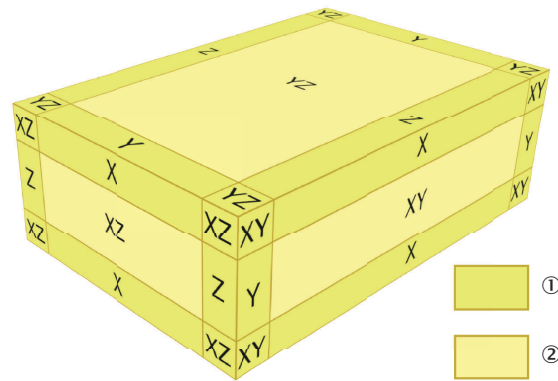

Figure 32: Region of interest handles.
7. Use the region of interest handles (figure 32) or the region of interest manipulator (figure 33) in the image area to adjust the sides and position of the 3D region, so that it covers only the region of interest.
Hover over the region of interest to highlight its handles. Click and hold a handle to move or scale the region of interest, according to figure 32.